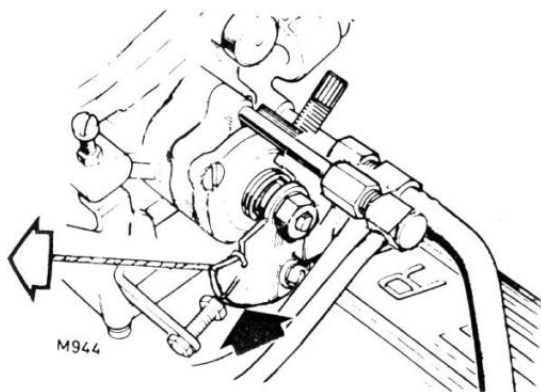

FIG. 95
24. Pull out the choke control so that the warning light comes on, then carefully push it in until the light just goes out. At this point the control knob should be 14 to 16 mm $\frac{9}{16}$ to $\frac{5}{8}$ in. out. With the control in this position, the scribe line on the fast idle cam should be central to the head of the adjustment bolt as seen in **Fig. 95**. Adjust the screw to give a fast idle speed of 1000-1200 rpm and secure the setting. Push the control fully in.